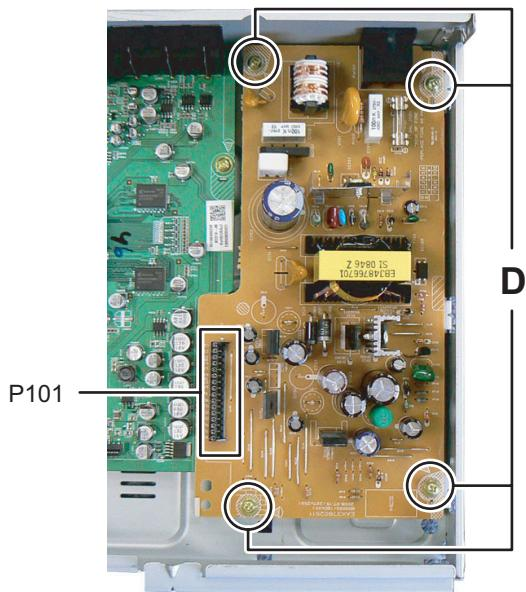

Fig.7
- (2) Remove the four screws **D** attaching the SMPS board. (See Fig.7)
- (3) Disconnect the B-B connector **P101** of the SMPS board from Main board. (See Fig.7)